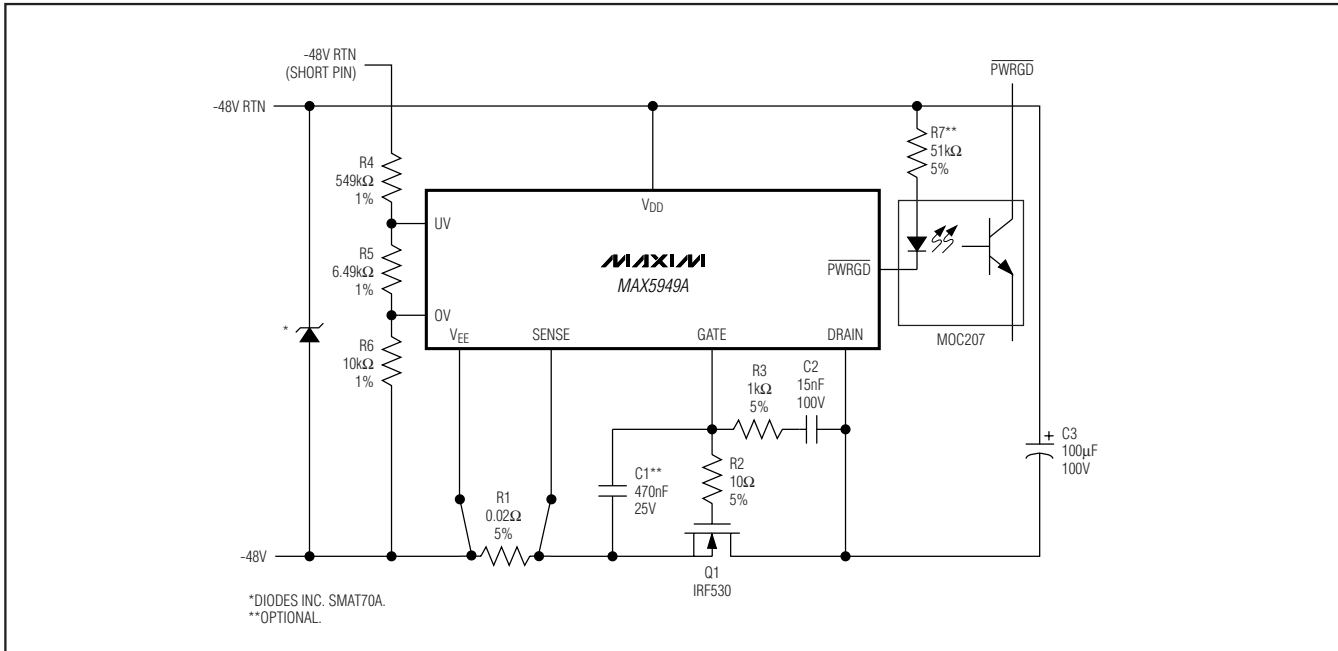

Figure 15. Using \overline{PWRGD} to Drive an Optoisolator
The $\overline{\text{PWRGD}}$ signal can also be used to turn on an LED or optoisolator to indicate that the power is good (Figure 15) (see the *Component Selection Procedure* section).
- If an optocoupler is utilized as in Figure 15, determine the LED series resistor: